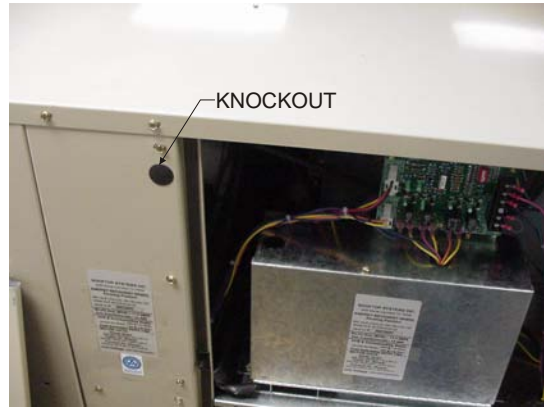

Figure 16
13. Connect line voltage power to ERS unit from ERS field provided or rooftop unit disconnect switch(disconnect must be properly sized). Then connect line voltage from disconnect switch through ERS knockout on middle post to control box per the wiring diagram. **See Figure 16 and 17.**